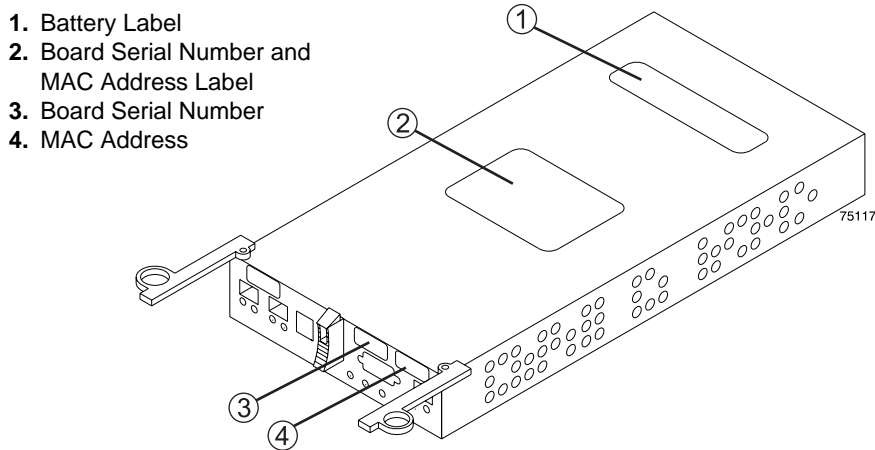

Figure 4-11 Label Locations on the Controller
- 11 Update the following information on the new controller labels and attach the labels to the replacement controller. Figure 4-11 shows the locations of the labels.